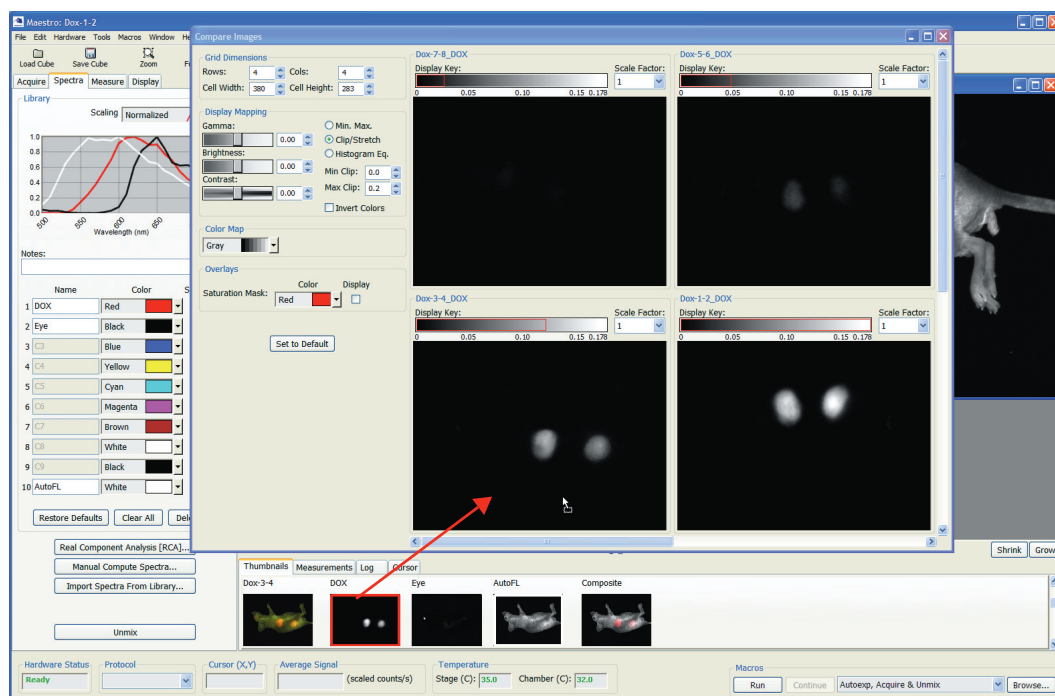
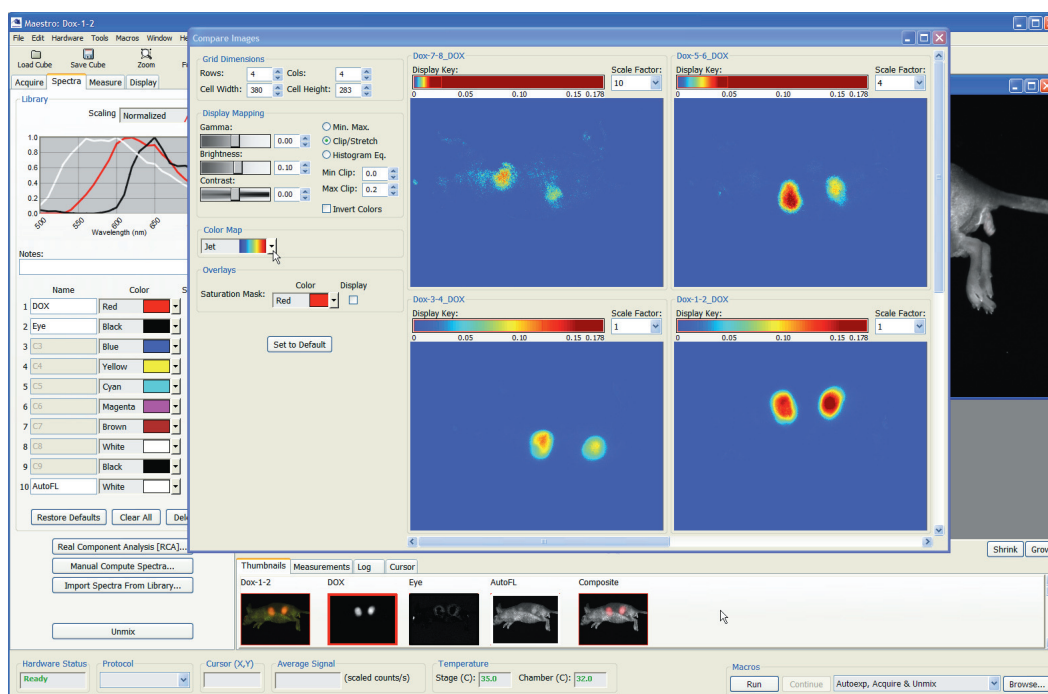

Figure 52. Compare Images
Figure 53. Compare Images using different scaling factors and the “Jet” color map
2. Select **Tools > Compare Images**. The **Compare Images** dialog box opens (Figure 52).
5. All images are scaled based on the image with the brightest signal. As you can see in Figure 52, the **Display Key** for the lower-right image has the brightest signal with 874 counts. The red outline in each image **Display Key** indicates the display range of the individual image.
6. The four images in Figure 52 show the difference in the amount of DOX fluorophore present in all eight mice (two mice per image):
7. If an image you are trying to compare is either too dark or too bright to display any visible detail at the display range of the other images, use its **Scale Factor** multiplier to multiply its pixel intensity. In Figure 52, the upper-left image is too dark to display any detail. Increasing its **Scale Factor** to 10x (see Figure 53) will make the image brighter (notice also the change in its **Display Key**).
- The **Color Map** drop down box lets you map the display to a variety of pseudo colors. The example in Figure 53 is shown using the “Jet” color map.